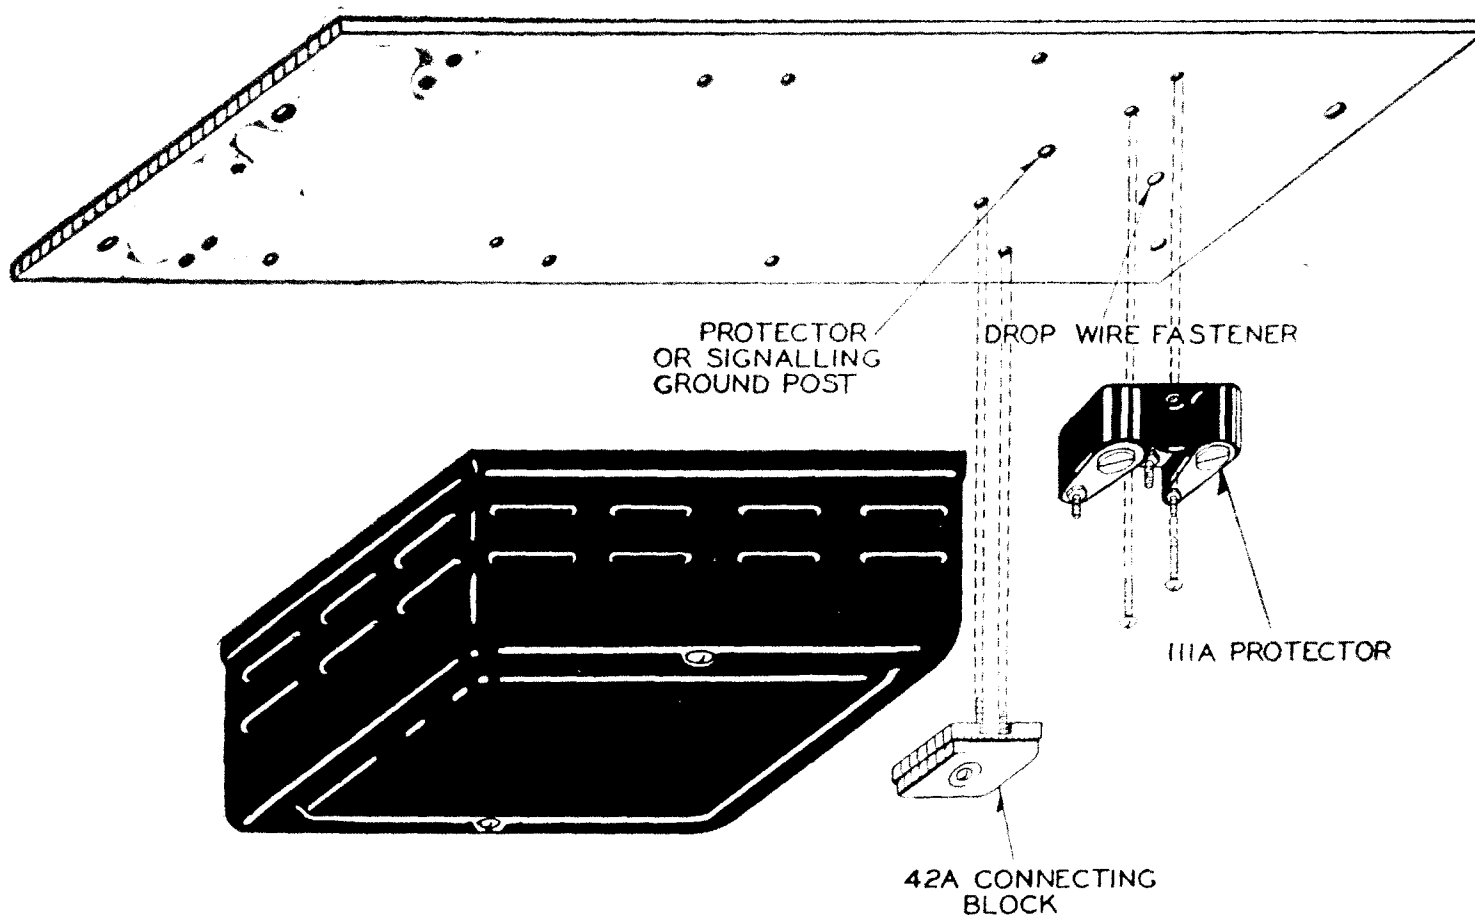

Fig. 3—Apparatus Plate
5.03 The right rear corner post of the booth is constructed with dual channels to provide for telephone wires on the right and power wiring on the left side. The wiring may enter either the top or bottom of the respective channels. The power circuit shall terminate on the receptacle located at the top of the channel. The telephone service should terminate on either a 111A protector or a 42A connecting block, as required. Two tapped holes in the apparatus mounting plate have been provided for No. 8 machine screws. One is to be used to terminate the protector or signaling ground wire, the other for the last attachment of the drop wire (see Fig. 3). The last attachment may be a No. 4 cable clamp. Drop-wire span to the booth should not exceed 25 feet.